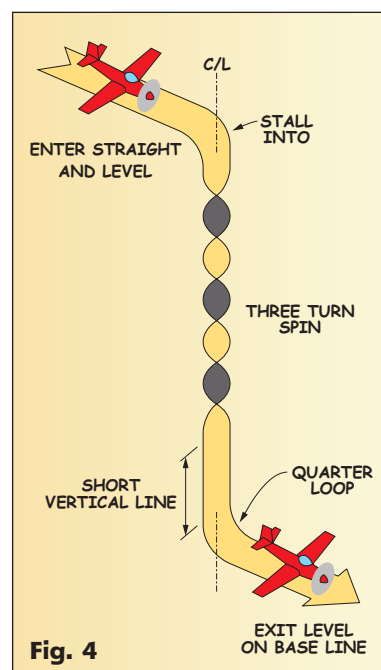

Fig. 4
i.) Gain height and perform a three-turn spin. The initial heading and the recovery heading must be into wind and the model must fall into the spin, i.e. no 'flick' entry. There's really only one way to correctly perform the 'B' Certificate spin (Fig. 4), and success in the first part lies in getting the aircraft slow enough to properly stall into the entry instead of flicking over the top through excessive airspeed. If there's any hint of an upward pitch and roll as the model enters the spin the examiner must fail you.